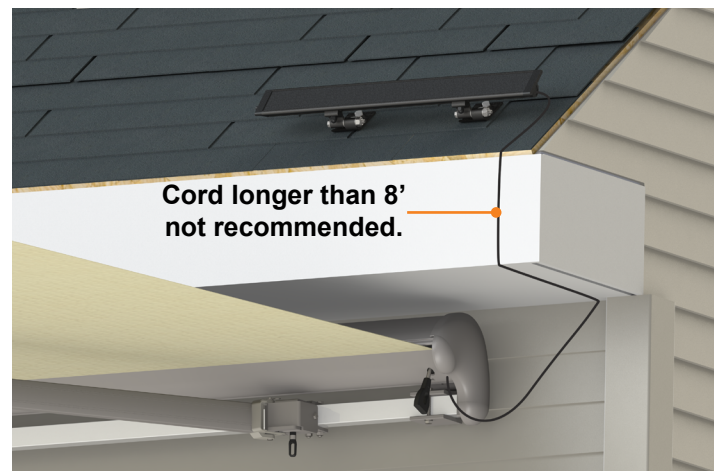

Fig.6
- The maximum amount of cord between the awning and solar panel is 8' before power will not sufficiently reach the awning. It is not recommended to exceed 8' of cord between the awning and solar panel. (Fig. 6).